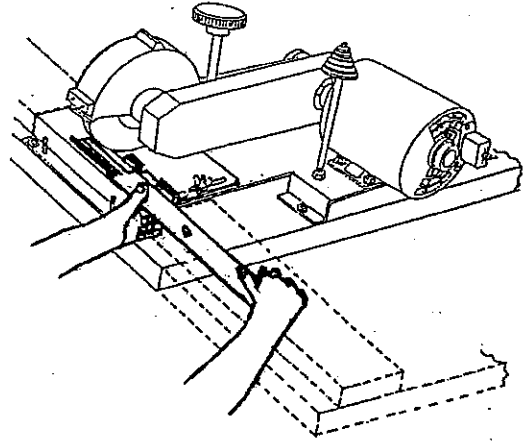

FIG. 8
- C. Holding the blade, stand to the side of the grinder and slide the blade from side to side under the grinding wheel. (FIG. 8)
Rotary mower cutting blades with the cutting edge at an angle to the body of the blade and "S" style blades must be ground without use of the adjustable blade guide (#3 on page 4). We recommend holding blade in the same way as shown on Page 6 Figure 8 except the blade must be held at an angle to the front of the machine base. This will permit the cutting edge of the blade to be at a right angle to the grinding wheel. By maintaining this angle and sliding the blade back and forth under the grinding wheel, a uniform cutting edge will be ground.